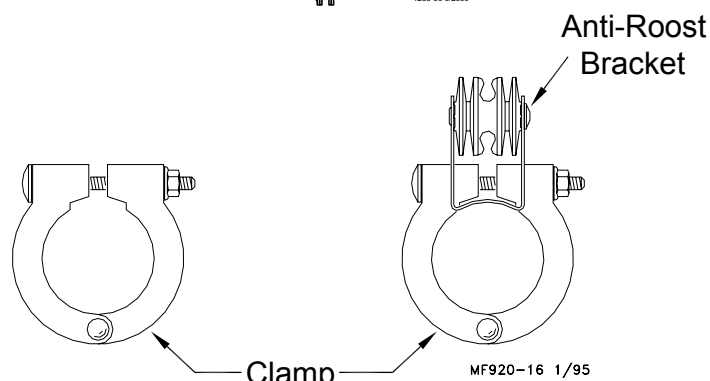

Figure 37. Tube Clamps
Anti-Roost Bracket at each joint. **Figure 37**
- make sure the clamps are located, as shown in **Figure 37**.